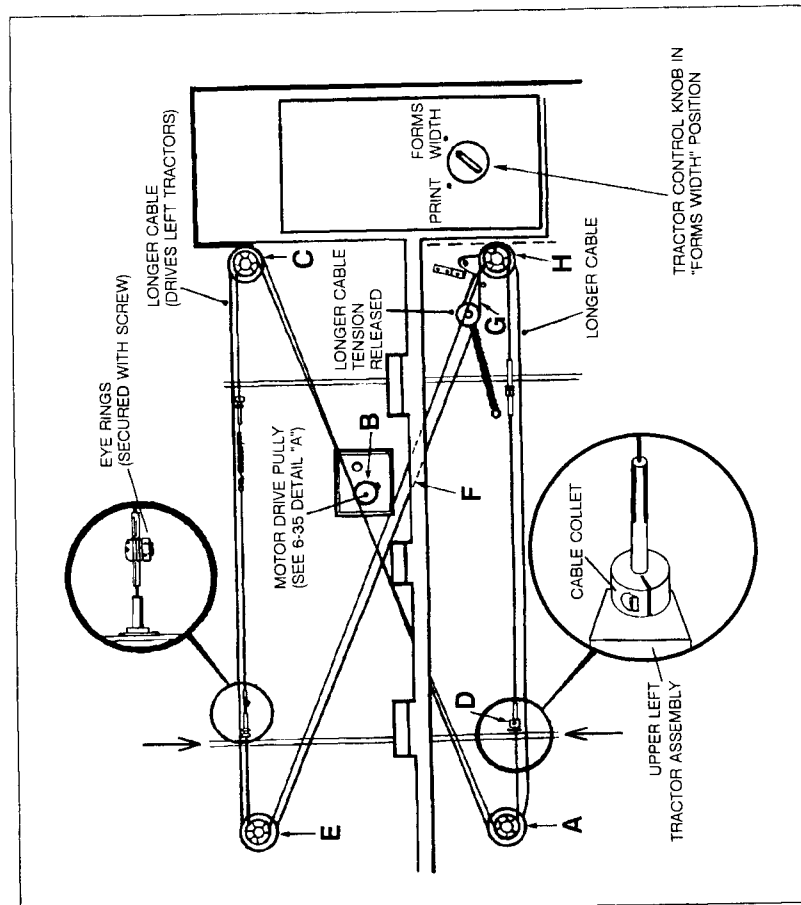

Figure 6-37a. Longer Left Tractor Drive Cable Removal
- On both upper and lower LEFT tractors, manually move the tractors so that its cable will slide through the notch in the AVB. (see Figures 6-37a and 6-37b).
When replacing the cable, be careful to thread it along the same path that it originally followed (refer to Figures 6-37a and 6-37b). Be certain that the new cable follows the correct path and is not crossed with the other cable, hung around other parts, etc. Replace as follows:
- c. String the remaining portion of the cable around the larger diameter upper left pulley (Figure 6-37a, "E") and down through the slot in the casting (see Figure 6-37a, "F"), to the lower right pulley.
- d. String the cable over (on top of) the tension (idler arm) pulley (see Figure 6-37a, "G"), then over the top of the lower right pulley, around the bottom of the pulley (see Figure 6-37a, "H"), and across to the lower left pulley.
- e. Route the cable around the bottom of the lower left pulley (see Figure 6-37a, "A") and up through the slot in the casting to the motor pulley (see Figure 6-37a, "B"). Note, the cable must be strung over itself where it crosses itself (just before the motor pulley), otherwise it will rub.
- g. From the motor pulley route the cable around the bottom of the upper right pulley (see Figure 6-37a, "C") and then pull the ends of the cable together. The Tractor Control Knob should be set to the FORMS WIDTH position. This raises the tension idler arm off the cable, providing the slack needed to join the cable ends.
- h. Attach the two cable eye rings at the ends of the cable together using the machine screw, washer, and nut (see Figure 6-37a, "D").
- i. Place the cable under tension (idler arm) pulley (see figure 6-37a, "G").